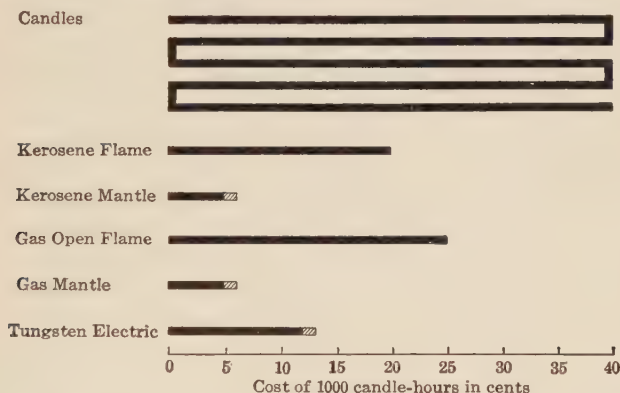

FIG. 207. — Comparison of cost of lighting by different means.
The cost of these varies considerably in different parts of the country, but as a rule gas-mantle lighting is less expensive than electric lighting. The graph, shown in Fig. 207, gives the relative cost of: (1) gas, using different types of burners where gas costs \$1.00 per 1000 cubic feet; (2) electricity, using different bulbs when electricity is 10 cents per kilowatt-hour. The actual cost of lighting with the bare-flame kerosene lamp would, for the average family, be less than with electricity. This is due to the fact that when lamps are used much less light is secured. If enough lamps were used